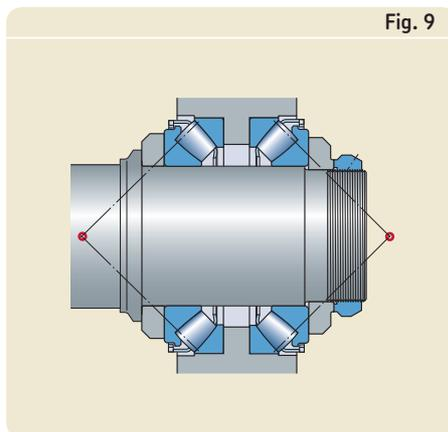

Fig. 9
2) If  $F_r > 0,64 F_a$ , the rules for unloaded housing washer face up apply, if the shaft is vertical. However, the listed values are to be multiplied by a factor of two since, under radial loading, the clearance is shared equally by the bearings. With an arrangement design described in the section "Bearing arrangement with a spherical roller thrust bearing combined with a thrust ball bearing" (→ fig. 9, page 23), the listed values under Vertical shaft – face down are valid.
In back-to-back arrangements, the pressure centres of the bearings will be far apart to provide a very stiff arrangement that accommodates bending moments as well as axial and radial loads (**→ fig. 9**).